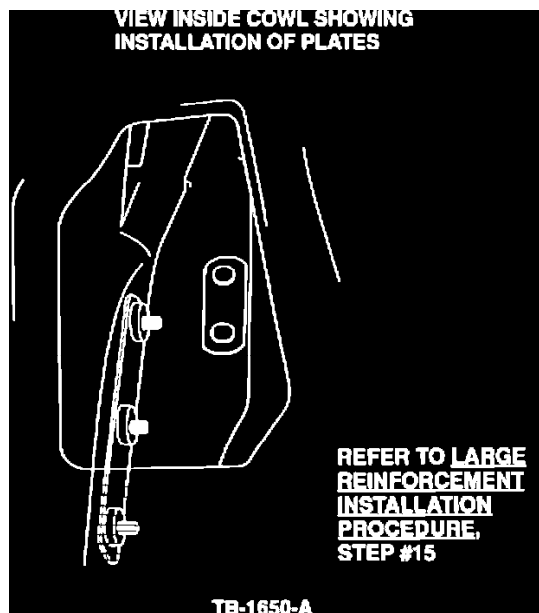

Figure 10
15. Place the larger three holed plate from the kit inside the cowl. Attach it with three 8 mm bolts through the dash reinforcement, from the engine compartment side, Figure 10.